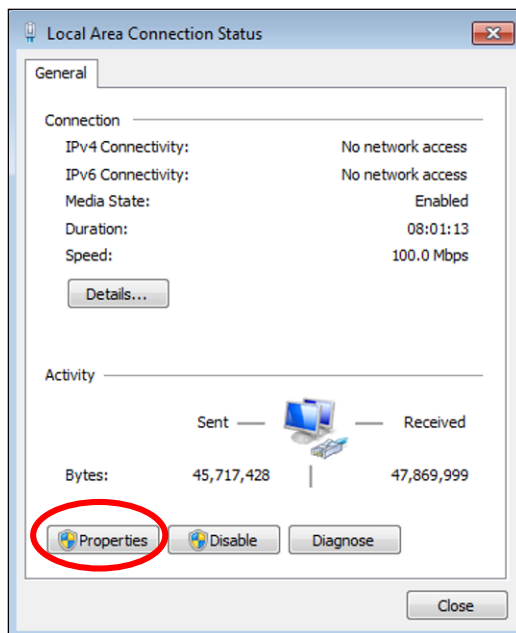

Figure PH018-15 – Local Area Connection Status
1. Attach the end indicated in Figure PH018-1 to the Gateway (see Figure PH018-15).